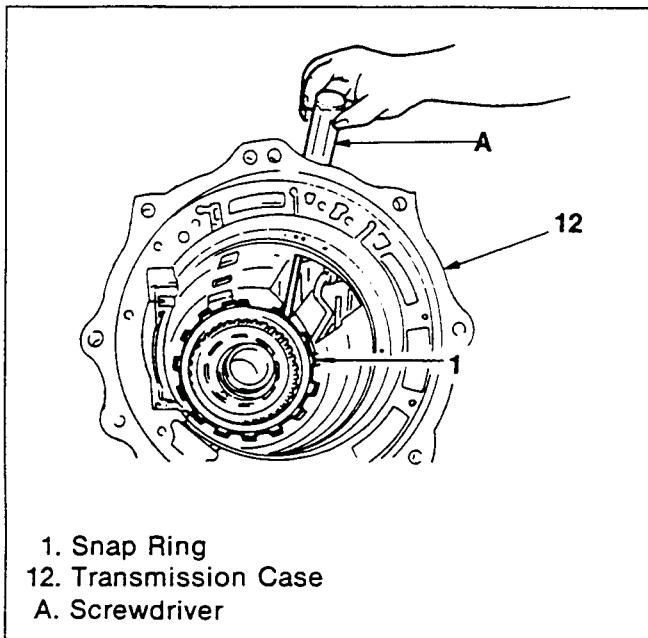

**Figure 175. Low and Reverse Brake Operation Check**
3. After assembly, blow 294 – 392 kPa (42 – 56 psi) air into the oil hole and check its operation (figure 175).